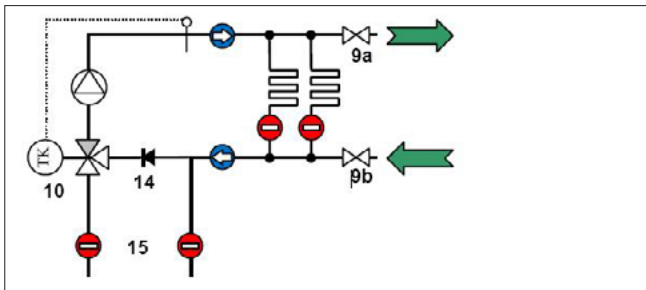

Fig. 8-3
2. Shut off the ball valves (15).
5. connect the filling hose to the fill and drain valve on the return (9b, Fig. 8-3) and the draining hose to the fill and drain valve on the supply (9a, Fig. 8-3).